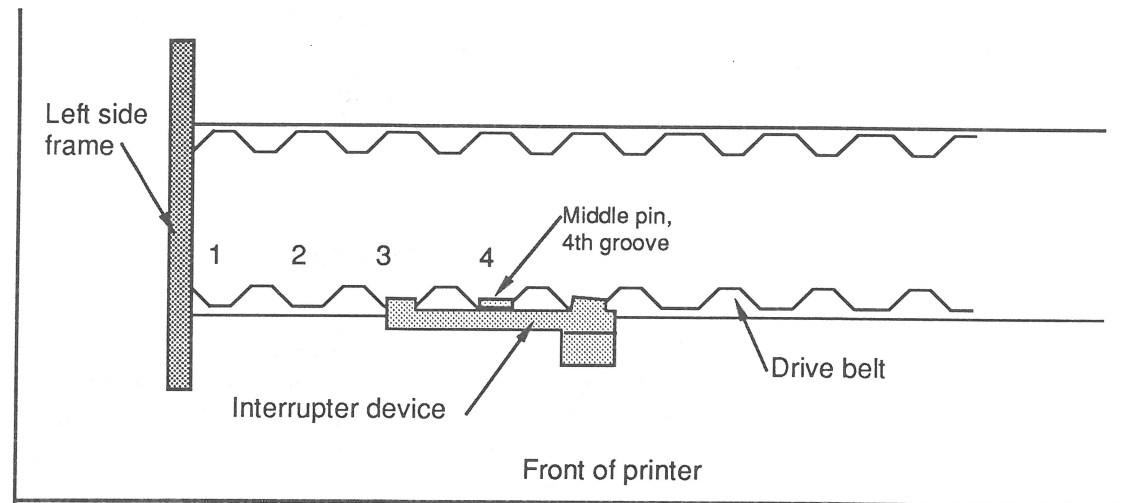

FIGURE 7
- b) Look at the left front of the drive belt. Position the middle pin of the interrupter on the fourth groove of the belt from the side frame. (See Figure 7.)